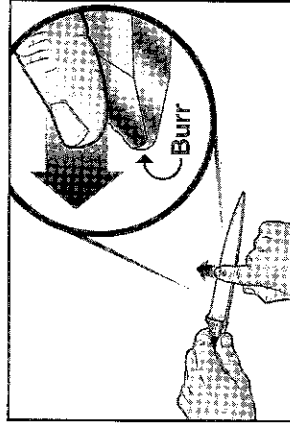

Figure 9. When you create a distinct burr along the blade edge, it can be detected by sliding finger across and away from the edge. Caution! See text.
To confirm the presence of a burr (see Figure 9) move your forefinger carefully across the edge in the direction shown. Do not move your finger along the edge - to avoid cutting your finger. If the last pull was in the right slot, the burr will appear only on the right side of the blade as you normally hold it; and vice versa. The burr, when present, feels like a rough and bent extension of the edge; the opposite side of the edge feels very smooth by comparison. If there is no burr continue sharpening in Stage 1, alternating left and right slots until a full burr develops. When a burr is present along the entire blade length proceed as below to Stage 3.
Make five (5) to ten (10) pulls (3-4 seconds) in only the left slot of Stage 1 and then check for a burr along the entire back side of the blade edge. (The burr created in Stage 1 will be small but can be felt as shown in Figure 9. Make certain the burr is present; along the entire length of the edge. If there is no burr or only a partial burr, continue to make additional pulls all in the left slot about five (5) at a time and check for a burr after each group of five (5) pulls. In general 20-30 total pulls in the left slot will be adequate to raise a burr; it is unlikely to take more than 50 left slot pulls to create the burr. When a burr is confirmed, proceed to Step 2.
Stage 2 will create the primary facet of 20 degrees on the European/American knife. Turn on the power switch. Start by slipping the blade between the left angle guide of Stage 2 (Figure 13) and the knife holding spring while pulling the blade toward you and simultaneously moving the blade downward in the slot until it engages the diamond coated disk. You will hear it contact the disk. Insert the blade as close as possible to the bolster or handle. If the blade is curved lift the handle slightly as you sharpen near the tip of the knife. Sharpen the entire blade length. Then repeat with one full length pull in the right slot of Stage 2. Always make pairs of pulls, alternating pulls in the left and right slots of that Stage. Each pull should be about 4-5 seconds for 5" long blade and slightly slower for longer blades. Make about five (5) pairs of pulls, then check for a burr along the entire edge length. (See page 8 and Figure 9). Continue with more alternating pairs of pulls until the presence of a burr is confirmed. More pulls will be needed if the knife is very dull.